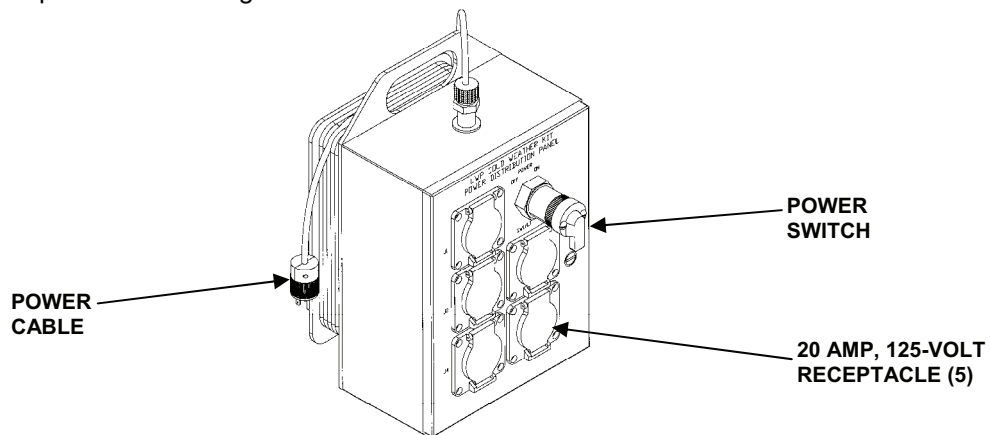

Figure 3. Power Distribution Panel.
1. All power cables/extension cables for cold weather kit connect to the power distribution panel. The receptacles (J1 through J5) are compatible with all connectors from the electric thermal blankets and raw water service pump blanket. See Figure 3.
- b. Place the 2-position POWER switch on cold weather power distribution panel in the ON position. See Figure 3.